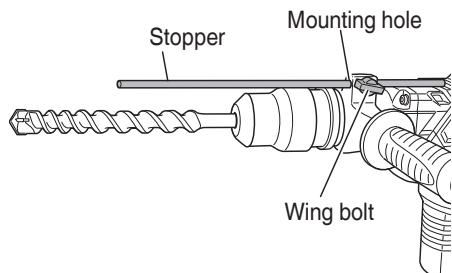

Fig. 10
- (c) Switch the selector lever to "hammering" according to the procedures mentioned in the above item (1) and secure the position of the tool.
5. Install the stopper (Fig. 10)